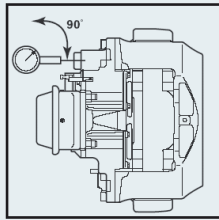

Figure 24
- Attach a dial indicator to the torque plate or axle frame. The dial indicator reading should be taken from a point on the back-side of the caliper housing. (See **Figure 24.**)